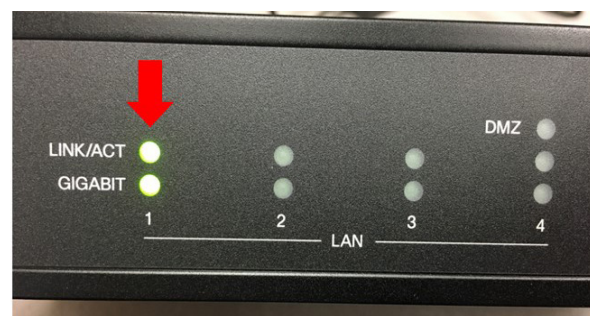

Figure 3
8. Once the laptop is connected to the router, the associated indicator light will be illuminated on the front of the router based on the port the laptop is connected to. In this example, LAN port 1 is being used. (Figure 3)